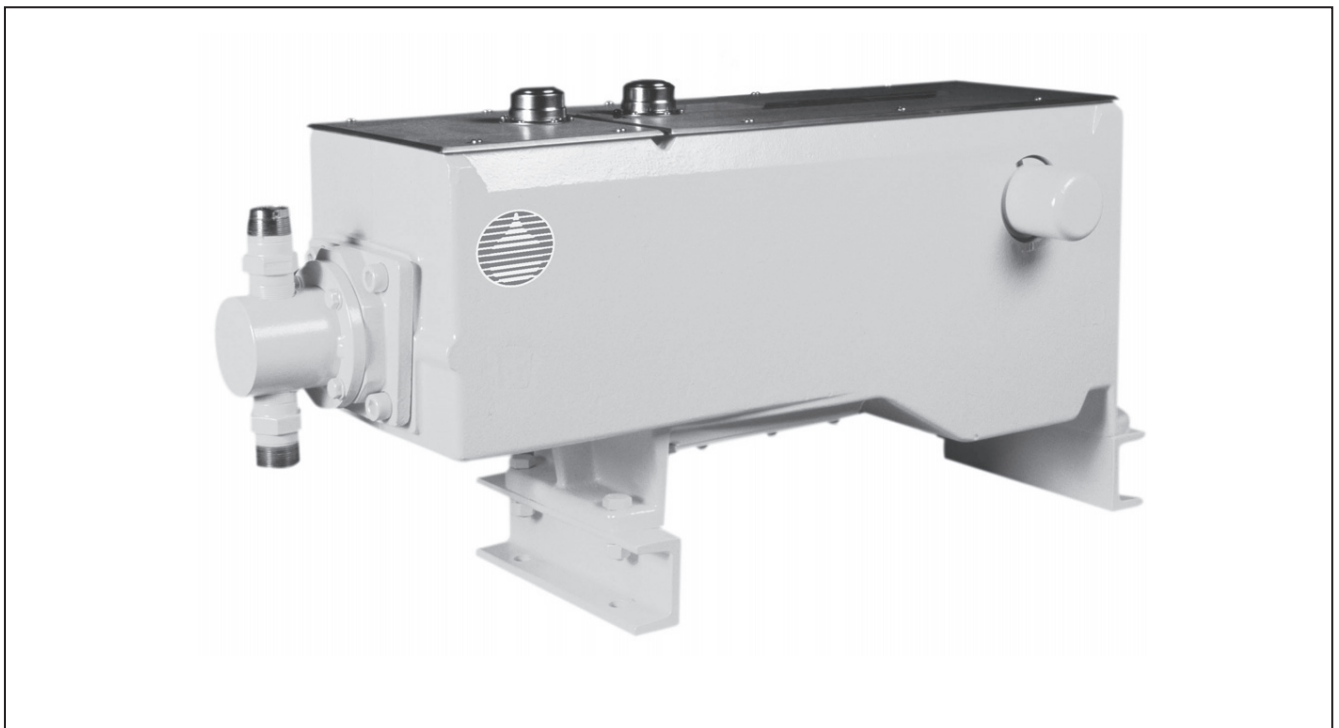

Figure 3. Packed Plunger Liquid End
The pump consists of three major components: (1) a drive unit, (2) a reciprocating plunger, and (3) a liquid end. Pump delivery is a function of drive speed, plunger stroke length, and plunger diameter. In addition, delivered volume for a given pump can be varied by mechanical (micrometer hand knob) or (optional) electrical or pneumatic adjustment of plunger stroke length. Pump drives may be fitted with HPD (High Performance Diaphragm, Manual 54146) as well as several styles of PP (Packed Plunger, Manual 54270) liquid ends (See *Figures 3 and 4*). This manual will concentrate on the mechanically adjusted drive unit only.